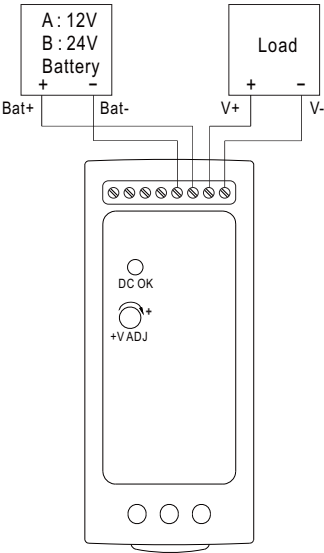

Fig 1.1 Suggested system connection
- (1) Please refer to Fig1.1 for suggested connection.